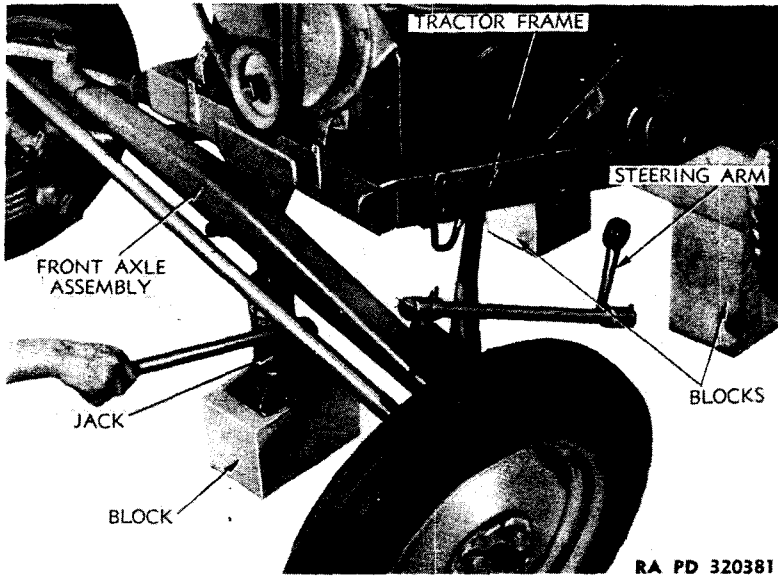
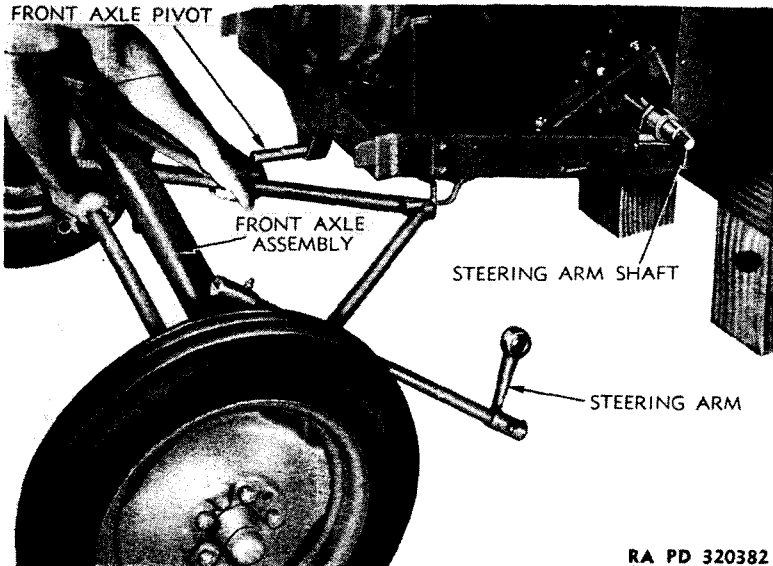

Figure 81—Blocking Up Tractor
Figure 82—Front Axle and Wheel Assembly Removed
b. **Removal.** Jack up front of tractor and block up frame even with front of tracks (fig. 81). Lower tractor onto blocks and remove jack. Remove large nut and lock washer from steering gear section shaft. Pull steering gear arm from section shaft. Remove cotter pin from front axle pivot pin and rear radius rod pivot pin. Remove collars and washer. Pull forward on front axle until front axle drops from pin, and rear of radius rod drops from cross angle socket. Remove front axle assembly from under tractor (fig. 82).